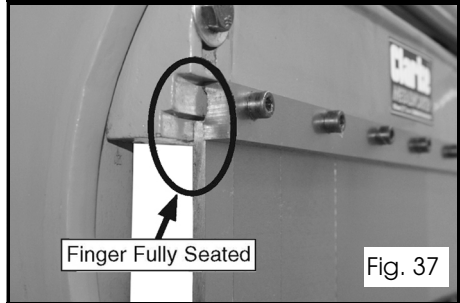

Fig. 37
- Make sure the fingers are slightly loose between the gib and the casting, then use the hand crank to raise the receiver to fully seat the fingers up against the casting behind the gib, as shown in Figure 37.